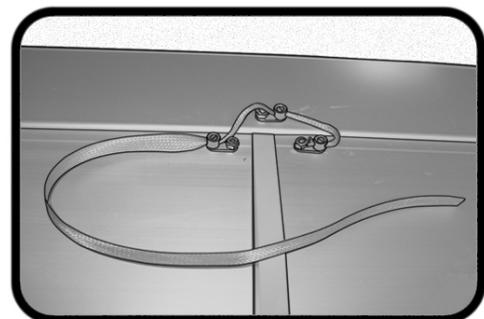

**Fig. 6**
**Step 6:** Slide the Lid pieces into the “C” Channel of the Lid Hinge. Be sure to place them in the correct order, with the motor end lid over the motor end of the Housing. **(Fig. 6)**